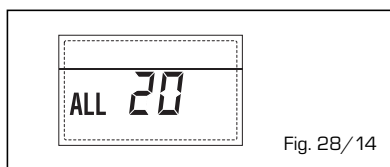

Fig. 28/14
**- ANOMALIA GUASTO SONDA MANDATA PRIMA ZONA MISCELATA "ALL 21" (fig. 28/15)**